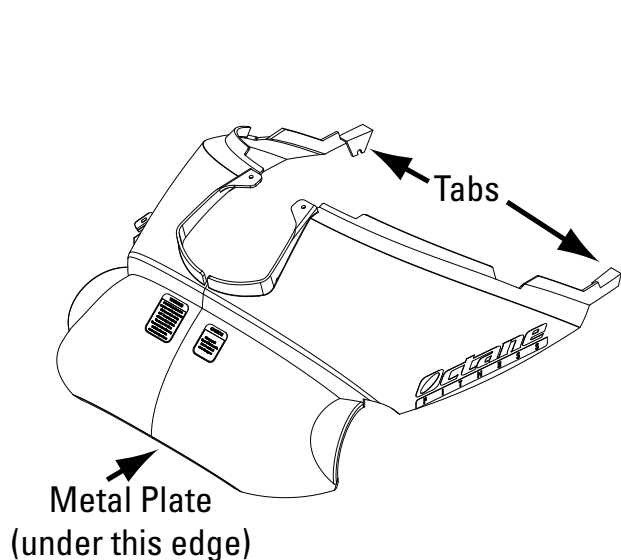

Figure 1.3
1. Slide the metal plate of the access panel (Figure 1.3) behind the back shroud. Flex and move the panel as necessary to maneuver it around the mast and arms. You may need to move the arms as well in order to get the panel into place. (Do not secure it until after the side shrouds are in position.)
3. Position the left side shroud and secure two screws at the back. Position the access panel and fit the tabs on each side of the access panel into the slots between the side of the main shroud and the frame, over the top of the screws. Fit and hold the two side shrouds together at the front of the machine, then secure with the three (3) screws.
4. Verify that the access panel is properly seated, then secure the two (2) screws at the back of the access panel and the screws on each side at the tabs. Replace the handlebar covers.